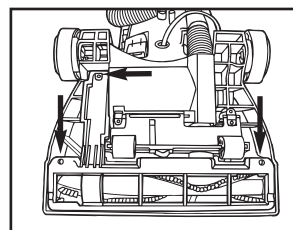

Fig.7/1
1. Lay the cleaner flat and turn it over to expose the nozzle base. The base should lay flat and face upwards. To remove the nozzle guard, use a Phillips screwdriver to remove the three (3) screws. The arrows below show the location of the screws (Fig.7/1).